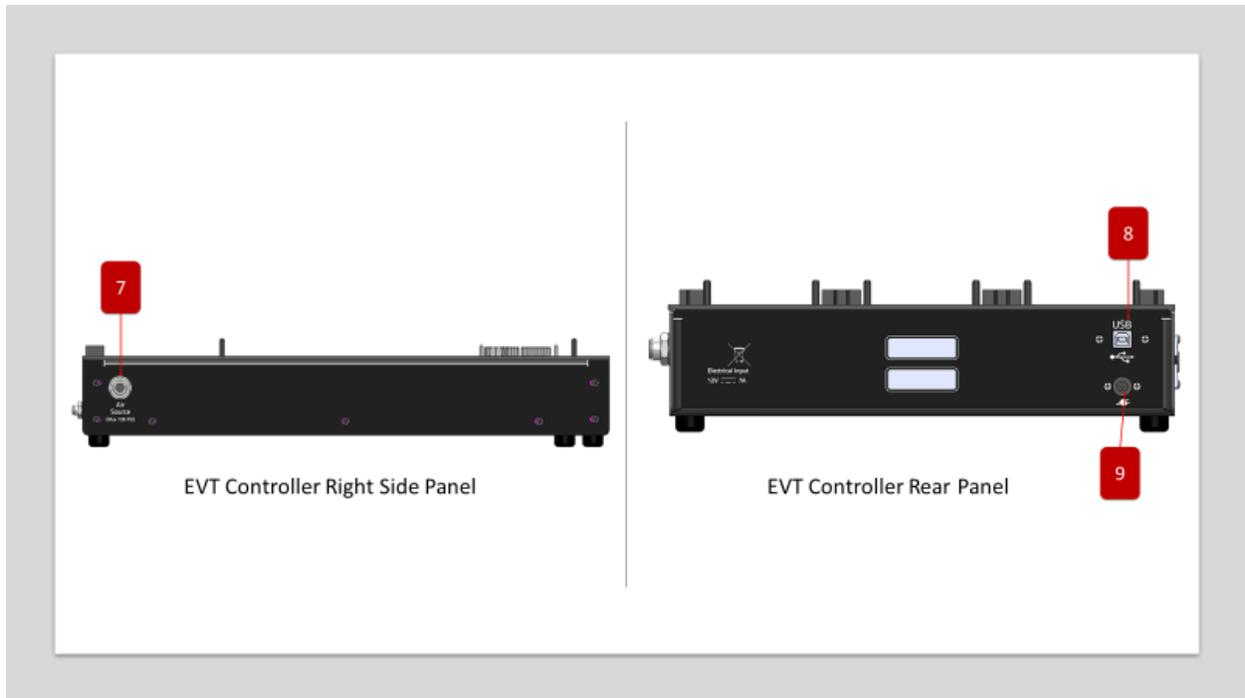

Figure 9 - EVT Smoke Generator Controller
2. With EVT power switch in the off position, attach the provided power supply between Controller and power outlet. See Figure 9, item 9, for power connector on Controller.